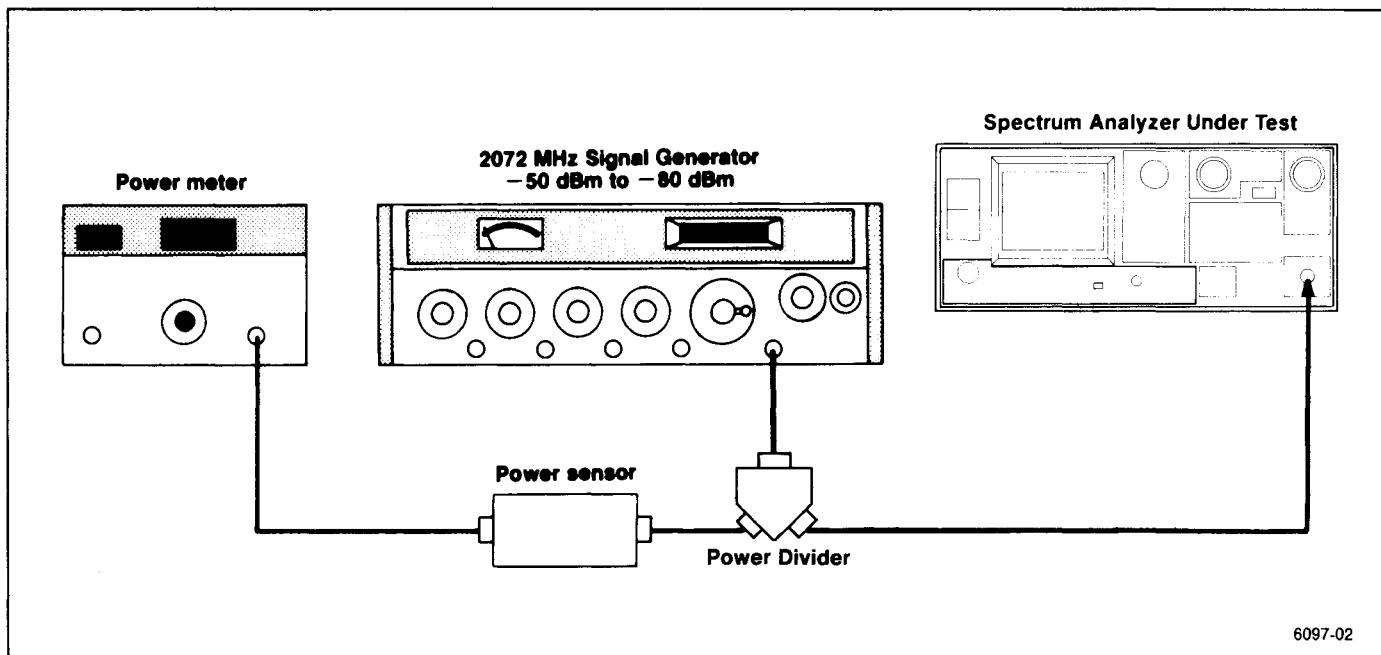

Figure 5-24. Test equipment setup for band leveling adjustment.
c. Put the VR Module on an extender and connect test equipment as shown in Figure 5-24. Set the Spectrum Analyzer controls as follows: